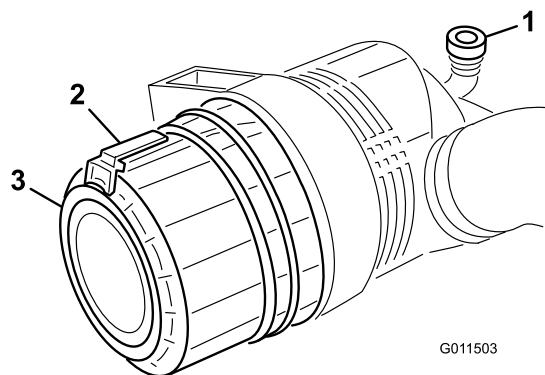

Figure 54
1. Pull the latch outward and rotate the air cleaner cover counterclockwise (Figure 54).